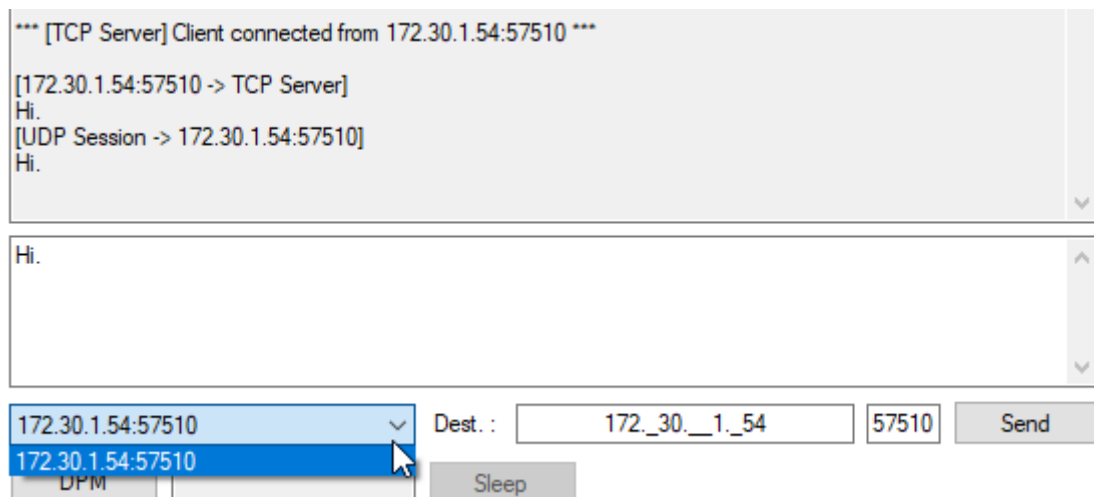

Figure 29. TCP server data transfer
4. Click the **Send** button (see Figure 29).